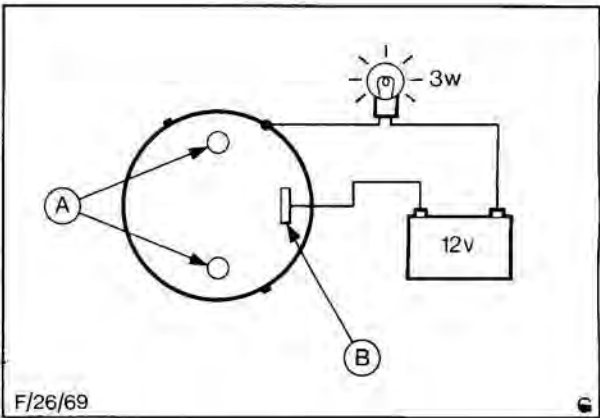

Fig. 9. Solenoid winding check
- A. Disconnect battery earth cable. Remove both cables from solenoid, 'A' in Fig. 9. Check continuity of solenoid windings by connecting a test lamp circuit comprising a 12 volt battery and low wattage (1–3 watts) bulb between the spade terminal and the solenoid body. The lamp should light.